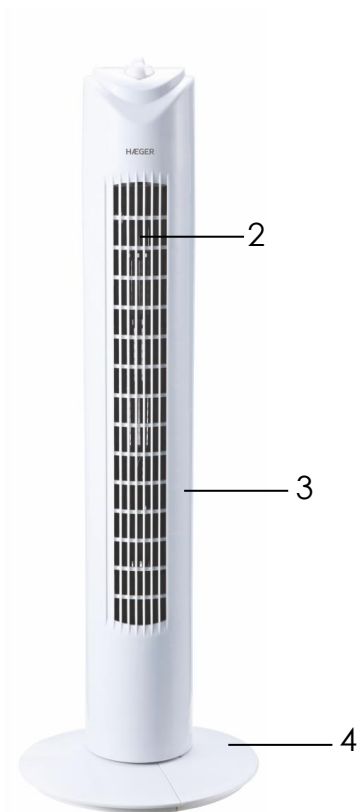

Fig. 1
2. Loosen the base locking nut from the bottom of the unit by turning it anticlockwise. Push it down the length of the power cord. (Fig 1)